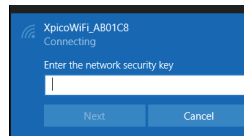

Figure 14: Network Security Password
3. After clicking Connect, enter “xpicowifi” in lower case as the network security password. Click on Next button to complete the connection. See Figure 14.